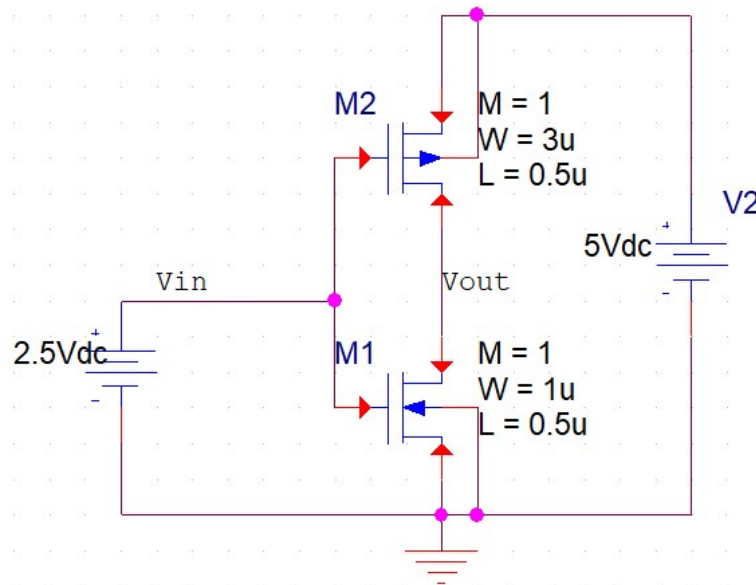

Fig. 6.13 Schematic of the CMOS OPAMP in PSpice
- (1) Use PSpice to do the DC analysis on the circuit in Fig. 6.13, set the aspect ratio (W/L) of PMOS to 3/0.5 (μm) and 1/0.5 (μm) for NMOS. Both of the NMOS and PMOS can be found in SEDRA_LIB of Pspice (NMOSOP5_BODY and PMOSOP5_BODY). Plot the figure of the input-output transfer curve, and write down the threshold voltage by using the definition in page 3.